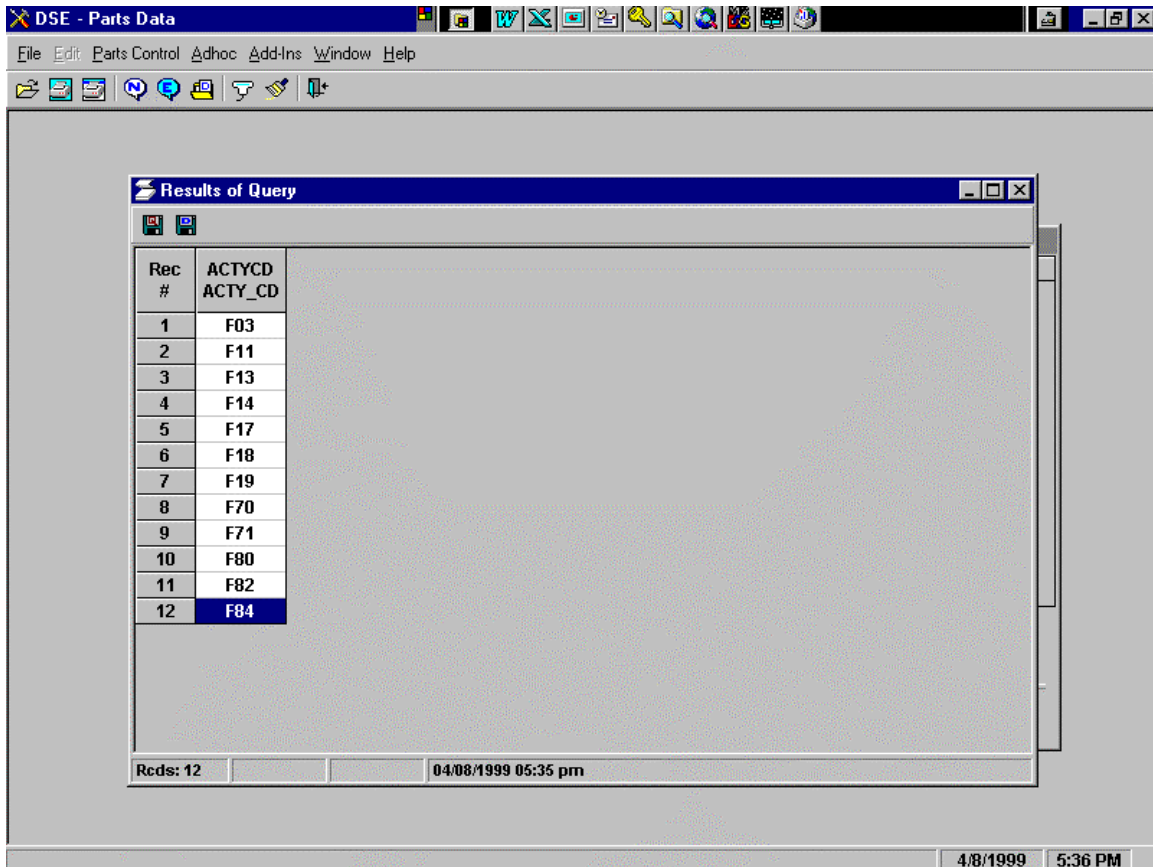

Figure 5.4k
b. When opened, you will get a window with the data previously provided (Figure 5.4k).